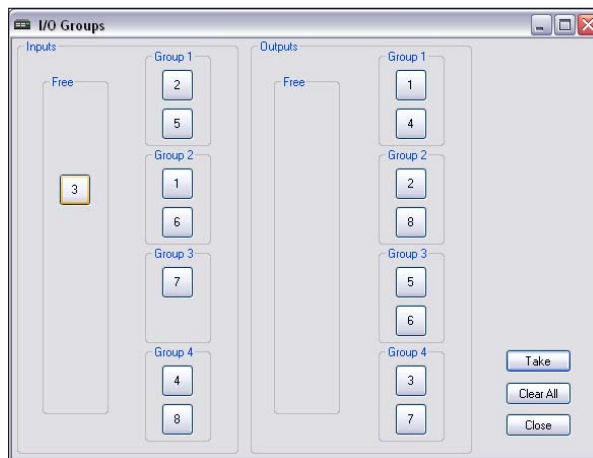

Figure 5-11 — ISM 824 I/O grouping completed
Grouped inputs only output to the same numbered output group (e.g. in figure 5-11, input 5 within group 1, only outputs to outputs 1 and/or 4).
- Click **Take**. The groups are now made (see figure 5-11).